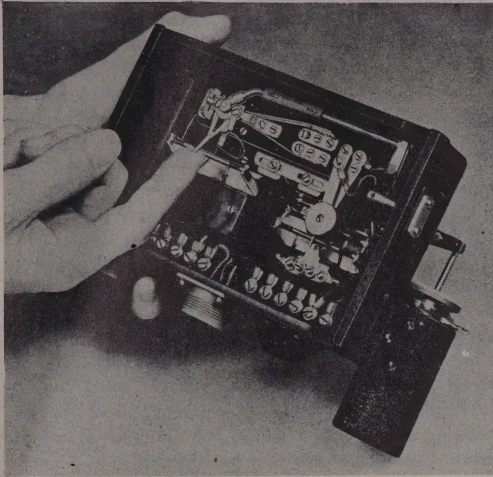

Figure 313 — Adjusting Rudder Potentiometer Wiper Tension
3. To decrease potentiometer wiper tension, lift the end of the wiper with the fingers to spring the blade slightly. (See figure 313.)